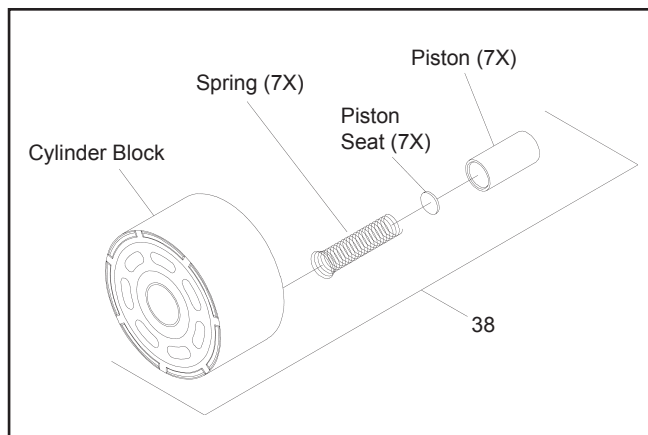

Figure 13. PW / PY Pump Cylinder Block
3. Inspect cylinder block assembly (72-75) see page 120 figure 13.
4. Inspect running face on portblock (40). Grooving in the portblock, made evident when the surface is checked by dragging a fingernail across the surface, would be cause for replacement.
5. Inspect gerotor (41), O-ring (39) and end cap(25).
Refer to Figure 13.